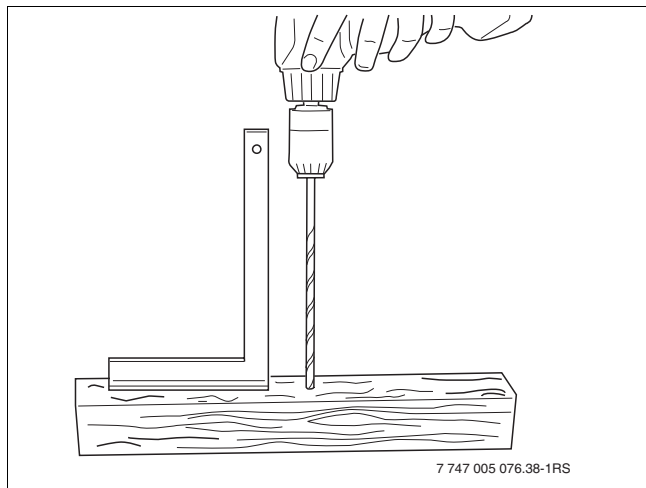

Fig. 25 Creating a drilling template
Using the wood drill, drill precisely at a 90° angle through the roof subframe to obtain a flat, level surface between the support block and profile rail. To do so, we recommend preparing a drilling guide or template. Take a timber support approx. 0.50 m to 1.00 m long. Drill a hole (Ø 6 mm) vertically right through the timber support (→ Fig. 25).
- Determine the length of the drill bit for the wood drill required according to the following calculation (→ Fig. 25):